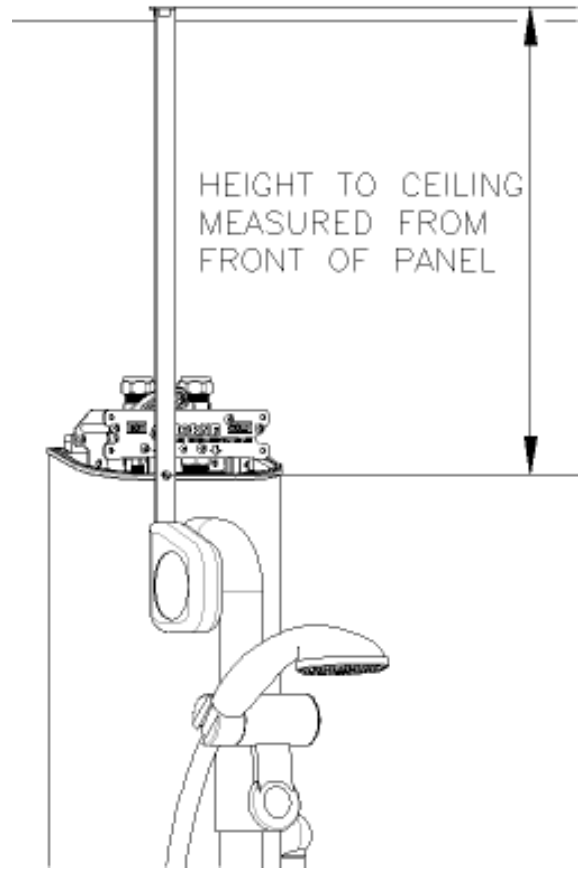

Fig. 3
Slide the Pipe Cover down into place, engaging with both the Alignment Pins and the Interface Gasket. If there are multiple cover sections, this should be repeated, ensuring the bottom section includes the key hole for ILTDU operation and leaving the section with the 90° end cut closest to the ceiling. If the Pipe Cover(s) is too long to do this, then measure the distance between the ceiling and the panel and cut the square **TOP** end of the Pipe Cover to make the Pipe Cover 15mm **SHORTER** than the measured distance, using a saw suitable for use with aluminium. See Fig. 3 and 4.
- Check that the ILTDU is connected exactly as shown in Fig. 3. It is essential for correct operation that the supply and outlet connection indications are observed.